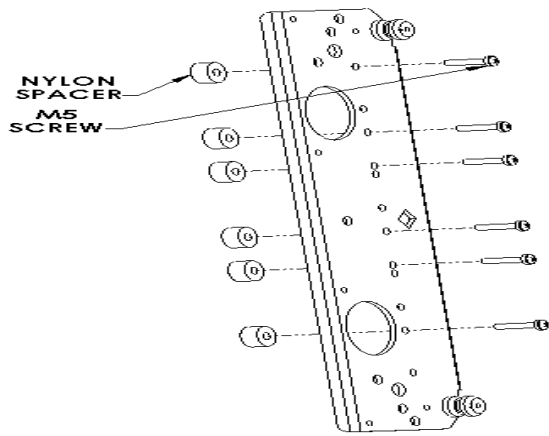
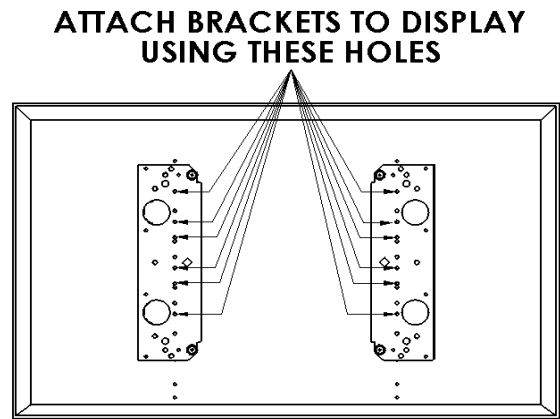

Figure 4
Figure 5
3. Place Nylon spacers on mounting holes and align hole pattern on brackets with pattern on back of display (see Figure 4 and Figure 5). Attach bracket using the M5 screws.